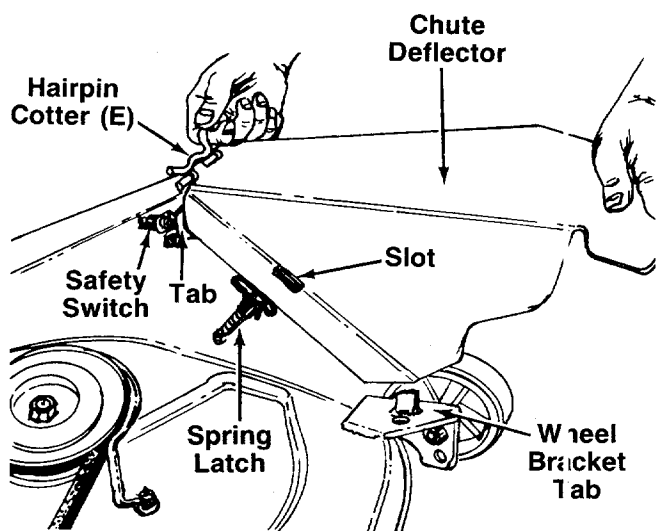

FIGURE 1.
1. Attach the chute deflector to the deck using the large hairpin cotter provided. See figure 1.
2. Position the chute deflector so that the lower end rests inside the tab on the wheel bracket and the tab on the upper end rests against the safety switch. See figure 1.
3. Secure the spring latch on the deck to the slot in the deflector. See figure 1.